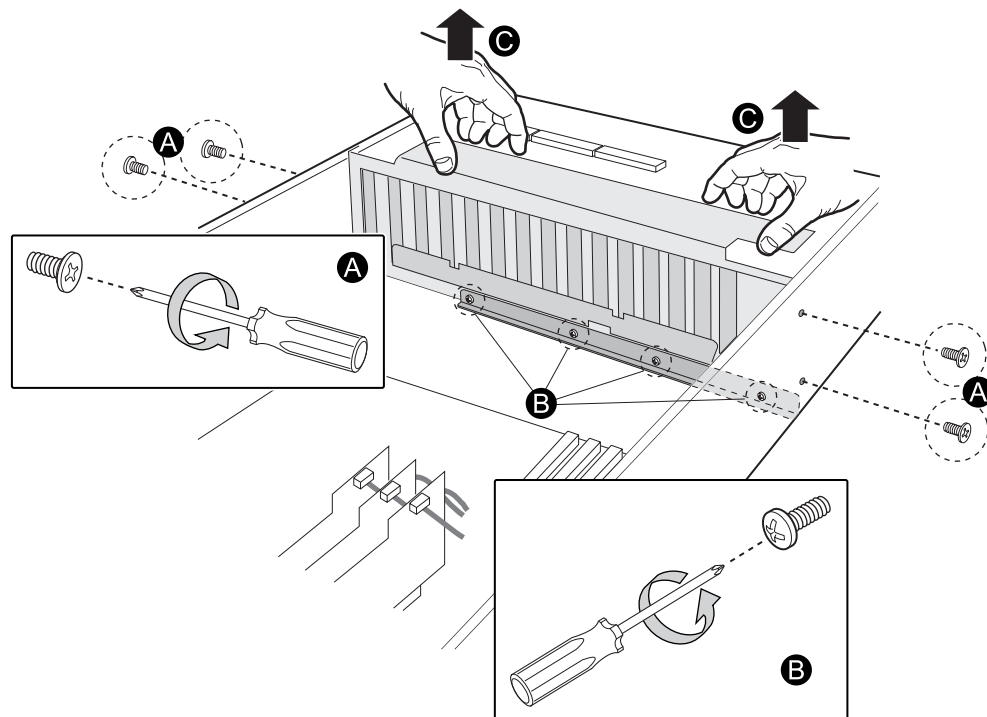

Figure 10. Removing the Backplane Board from the System
- A. Using a Number 1 size Phillips Screwdriver, remove the two Phillips screws on each side of the system that hold the backplane board in place. See Figure 10. Set these screws aside. They will be re-installed later.
- B. Using a Number 1 size Phillips Screwdriver, remove the four Phillips screws from the steel lip that holds the backplane board in place. See Figure 10. Set these screws aside. They will be re-installed later.
- C. Carefully remove the backplane board from the storage system. Pay attention to sharp edges on the backplane board. See Figure 10.